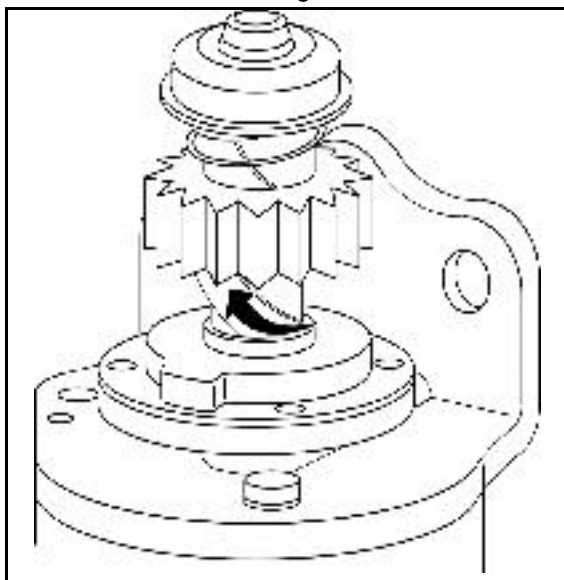

Fig. 54
1. When the starter motor is activated, the pinion gear should rise, engage the flywheel ring gear and crank the engine. If the drive does not react properly, inspect the helix and pinion gears for operation or correct rotation, Fig. 54.